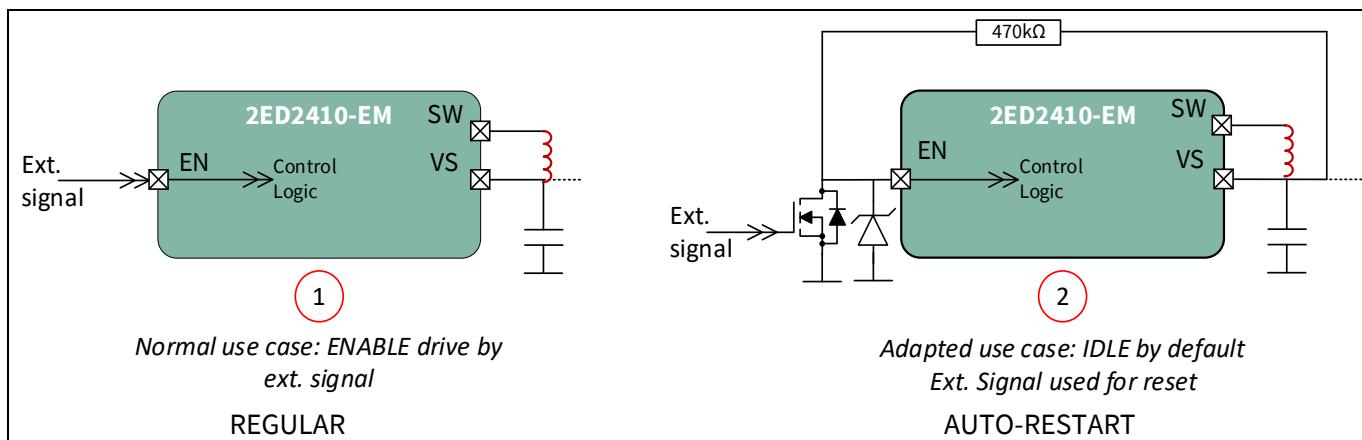

Figure 12 Schematic from datasheet, improved. Regular and UV auto-restart configuration
Example in figure 12 below, with $V_{\text{EN}} = 3.3 \text{ V}$, and automotive qualified 47 kΩ NTC and $R_{\text{TMP}} = 1.2 \text{ kΩ}$, the equation (13) below was used to compute $R_{\text{NTC}} = f(T(\text{°C}))$, where T and $T(25 \text{ °C})$ are expressed in Kelvin: